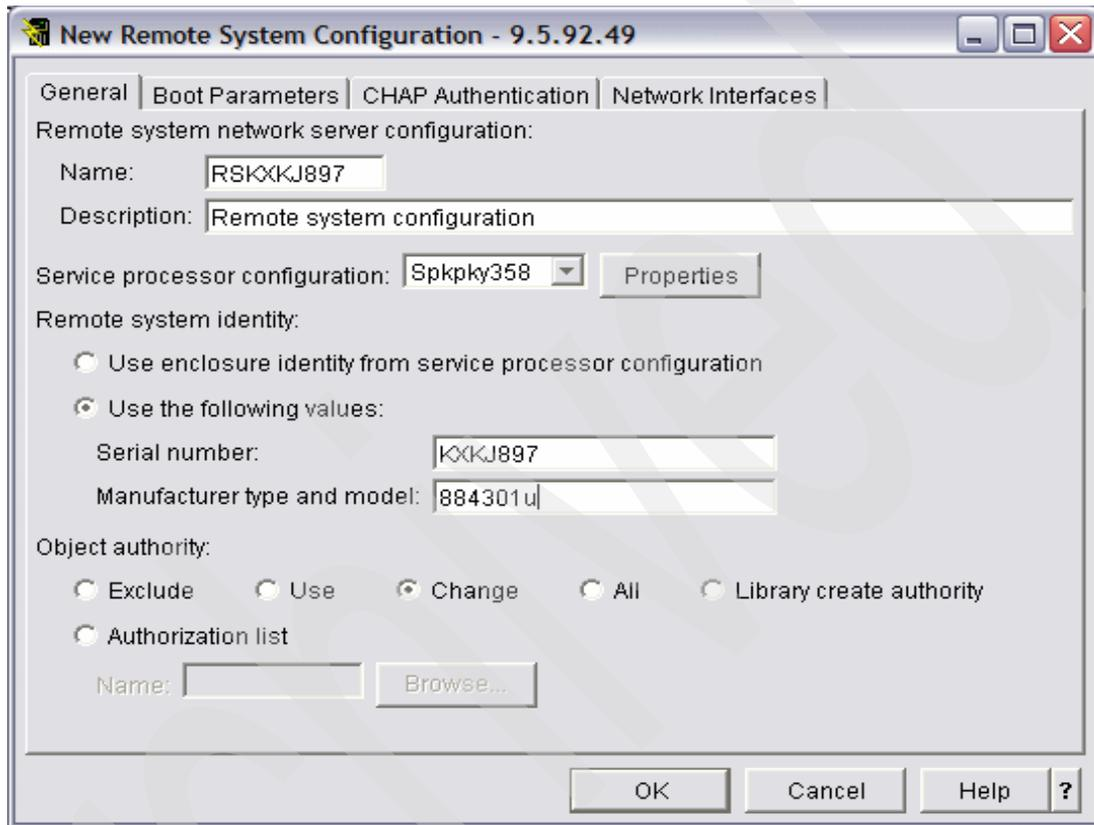

Figure 4-20 Describing the remote system: A Blade in this case
2. Right-click and specify **New Service processor configuration** (Figure 4-20 on page 67).
5. For Remote Identity, select **Use the following values** and input the serial number, manufacturer type, and model of the system (Figure 4-20).